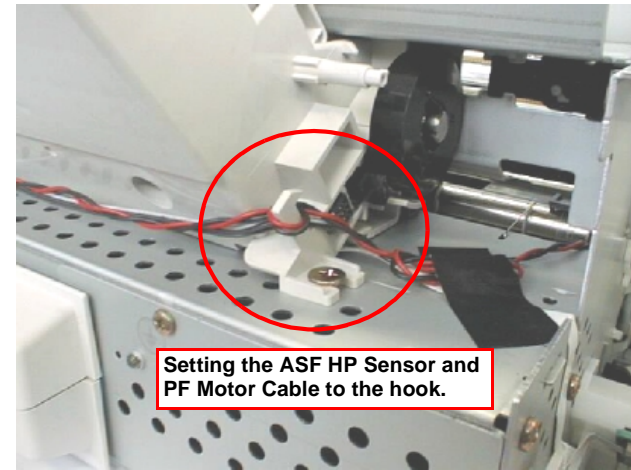

Figure 4-32. Setting the ASF HP Sensor & PF Motor cable
- Make sure the ASF HP sensor cable and the PF Motor Cable are set in the hook on the right side (viewed from the back) of ASF unit. Refer to Figure 4-32.